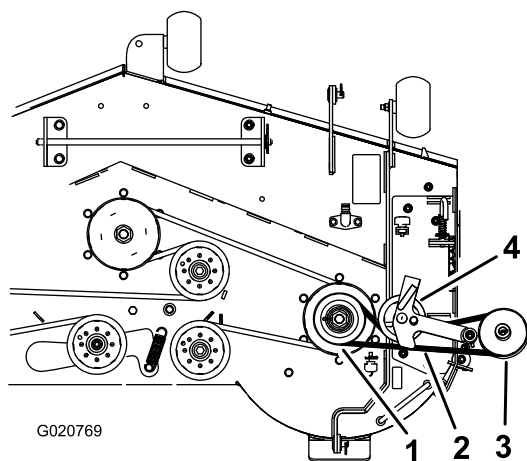
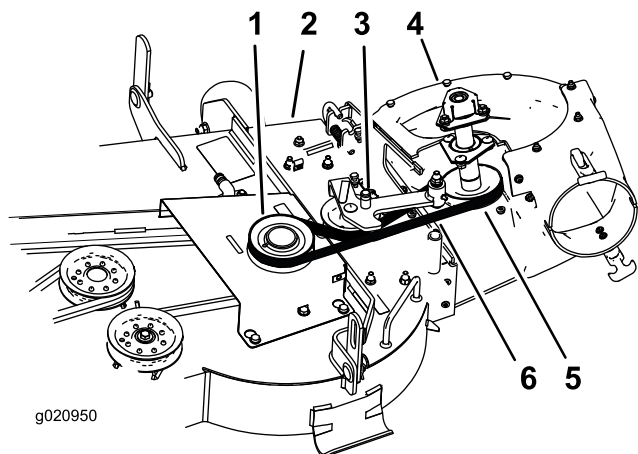

Figure 17
Figure 18
1. If necessary, install the belt onto the blower pulley (Figure 18).
1. If needed, install the belt around the blower pulley (Figure 17 and Figure 18). Refer to 5 Installing the Blower Assembly (page 11).
3. Route the belt around the drive pulley as illustrated in Figure 17 and Figure 18.
4. Temporarily route the belt beneath the idler pulley (Figure 18).
7. Pull the spring loaded idler pulley away from the fixed spring post, and route the belt around the mower deck pulley (Figure 18).